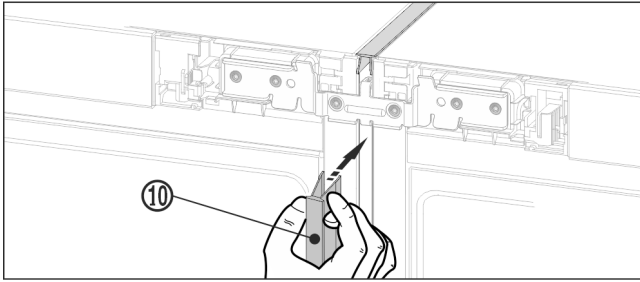

Fig. 22
- On the front press the long cover strip Fig. 22 (10) into the vertical gap. Ensure that the strip rests on the connecting plate.